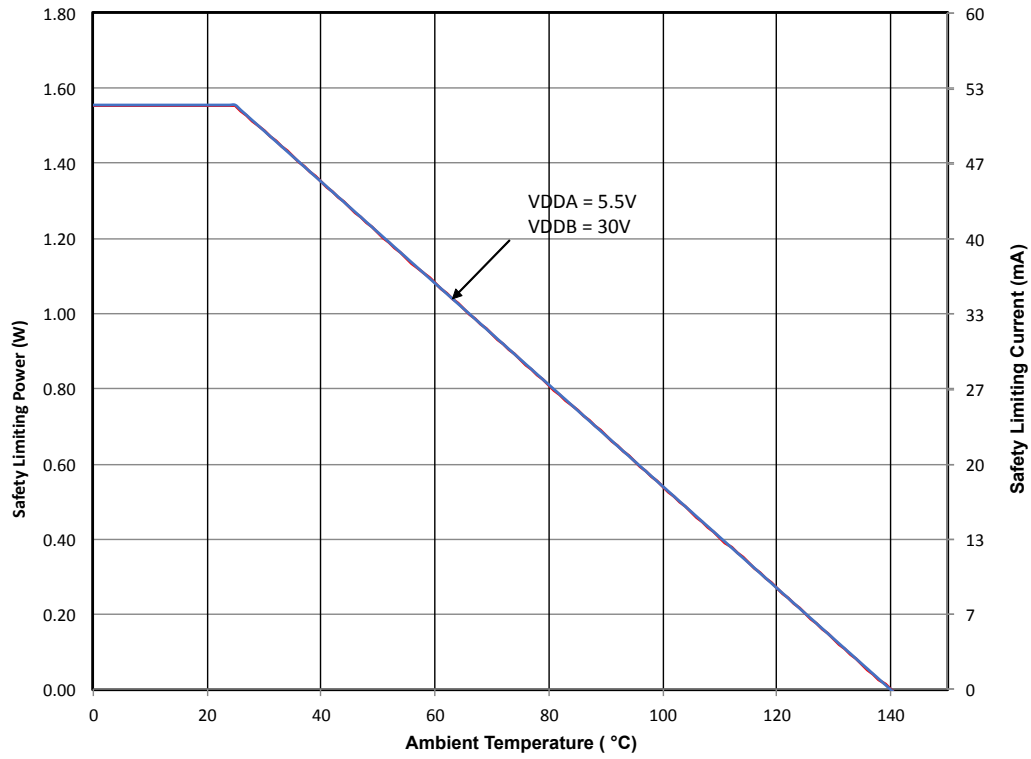

Figure 4.8. WB SOIC-20/24 Thermal Derating Curve
2. See Figure 4.8 WB SOIC-20/24 Thermal Derating Curve on page 32 for Thermal Derating Curve.